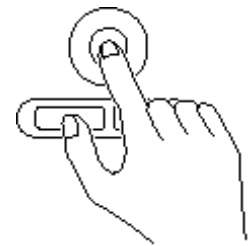

Figure 2-8 Dragging
**Dragging means selecting an item with the pointing cursor, and while keeping the left pointing device button depressed, moving the cursor to the desired new location, then releasing the button. (Figure 2-8.)**